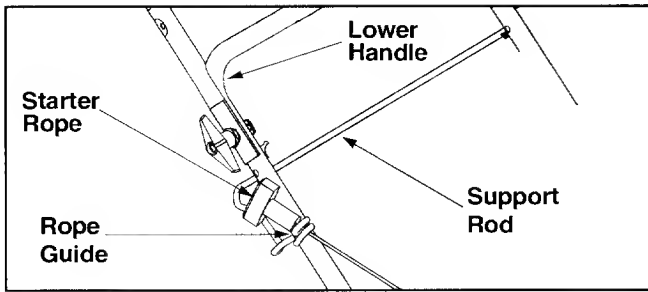

Figure 5
- The rope guide, which is connected to the support rod, is located on the right side of lower handle. See Figure 5.